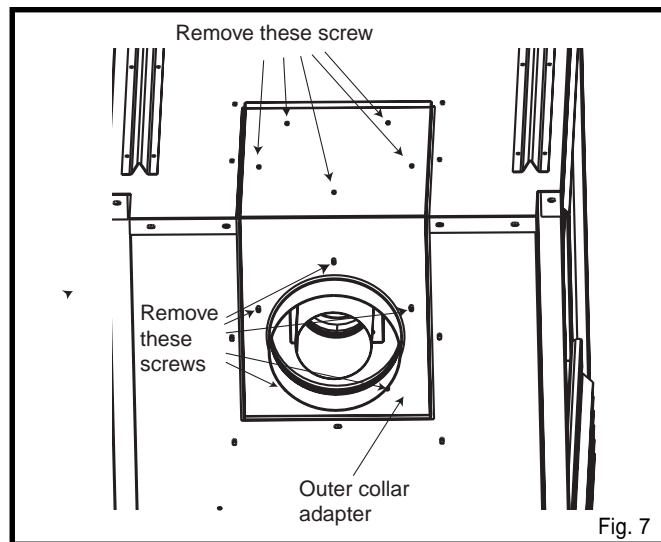

Fig. 9 Remove screws from outer collar adapter
1. Remove the 10 screws securing the outer collar adapter to the fireplace body (Fig. 9).